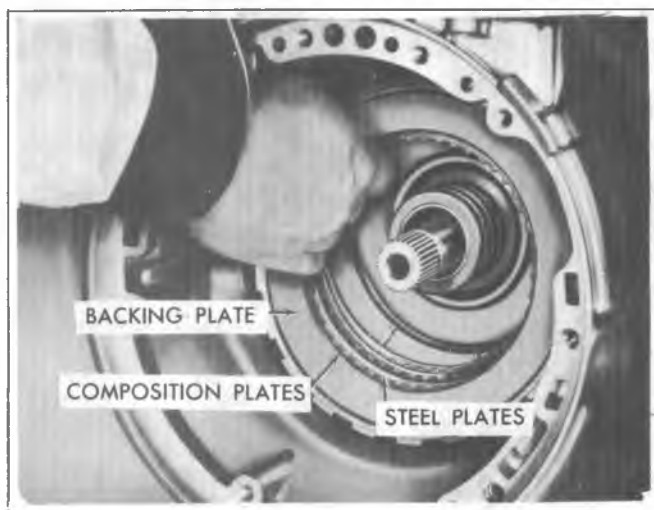

Fig. 7A-161C--Installing Intermediate Backing Plate and Clutch Plates
b. (Models FL and FS) Lubricate with transmission oil three (3) flat steel and three (3) composition-faced intermediate clutch plates and install, starting with flat steel and alternating composition-faced and flat steel plates (Fig. 7A-161C).